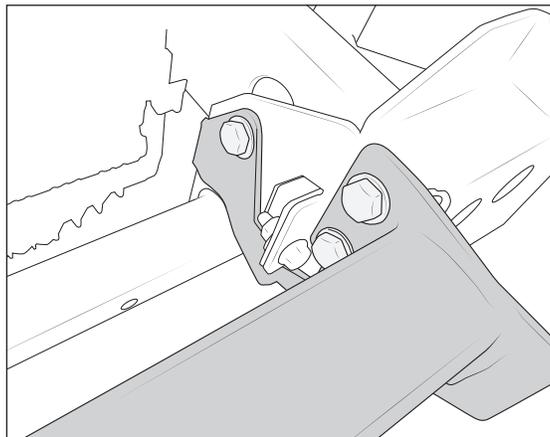

Figure 7: Driver-side shown
3. Install center section using three M12 bolts per side (fig. 7).